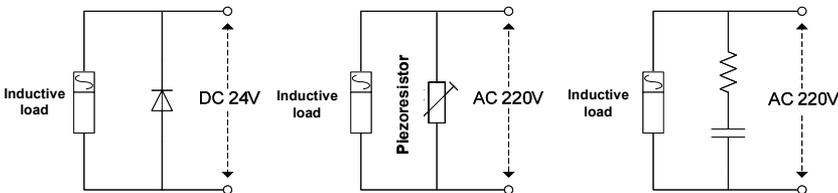

Figure3-5 Application of inductive load surge suppressor
- ◆ When the inverter is connected to the inductive load equipment (e.g. electromagnetic contactor, relay and solenoid valve), surge suppressor must be installed on the load equipment coil, as shown in Figure3-5.